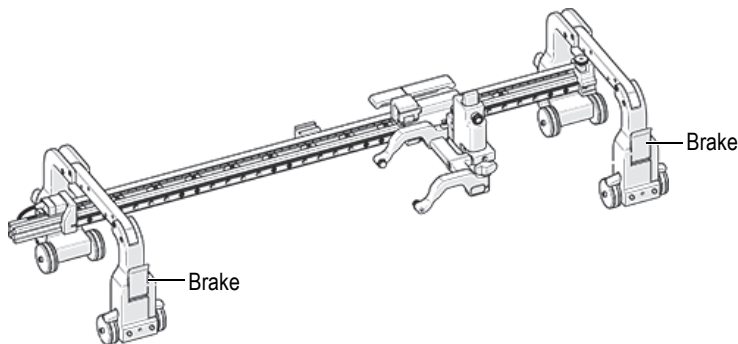

Figure 2-6 Configure magnetic scanner and set brakes
1. Ensure that the appropriate configuration is set up (see Figure 2-6 on page 36).